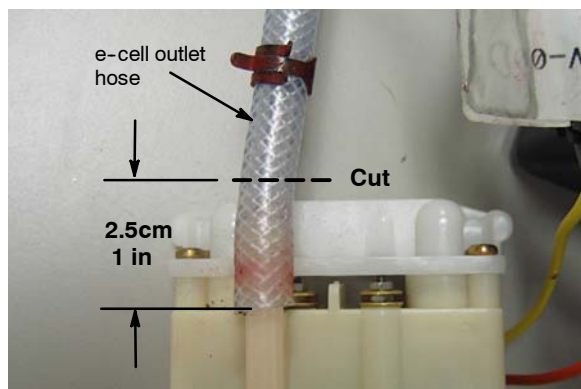

FIG. 6
7. Using a hose cutter, cut the e-cell outlet hose as shown (Figure 6).